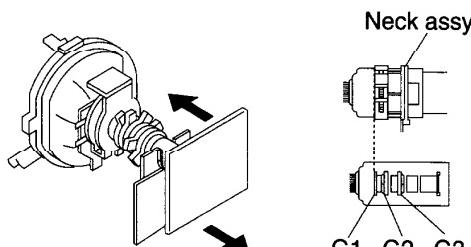

Fig. 3-1
- Position neck assy as shown in Figure 3-1.
(See Figures 3-1 through 3-3.)
- Move the deflection yoke forward and adjust so that entire screen is green. (See Figure 3-1.)